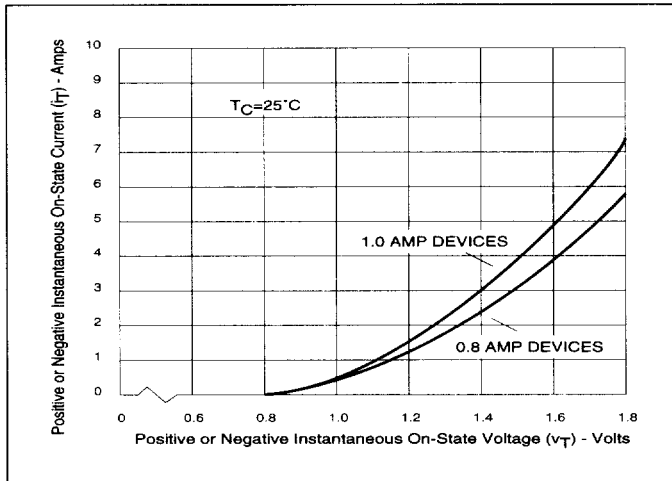

Figure 2.8 On-State Current vs On-State Voltage (Typical) (0.8 and 1.0 Amp)
- See Figures 2.8 through 2.10 for IT vs VT.